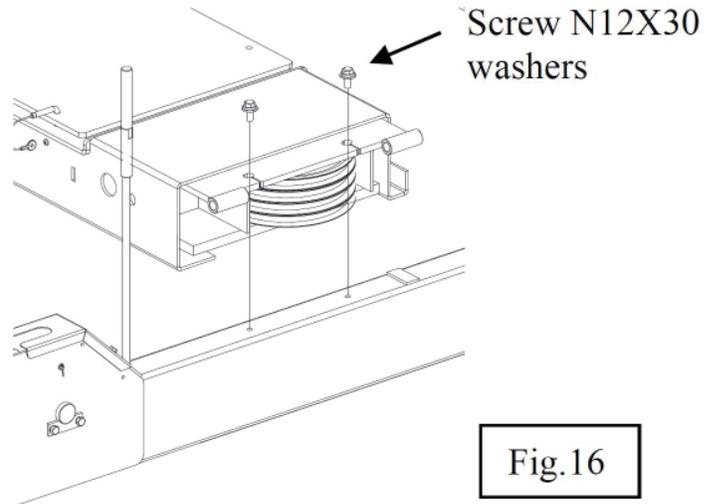

Fig.16
- With the openings in the rear beam side lined up with the runway ends, align the bolt holes in top of the beam with the slots in the runway ends. Bolt the runway to the rear beam using screws and washers as shown in fig. 16.